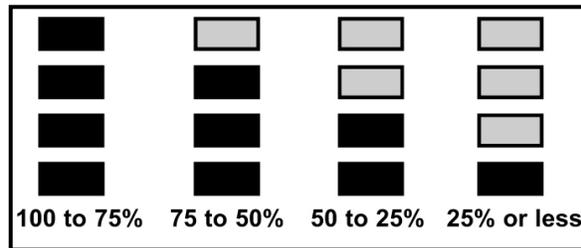

Figure 4: Battery Voltage Status Indicators
**Battery Level Indicator:** The battery level is indicated by a 4-segment LCD indicator, as shown in Figure 4. When all four segments are black the voltage level is between 100% and 75%. As the voltage decreases, the number of black segments decreases. Battery life varies with usage and the ambient temperature. Cold temperatures reduce battery life. Low temperatures may result in only two or three segments being black. This could be temporary and all segments will change to black as the temperature increases.